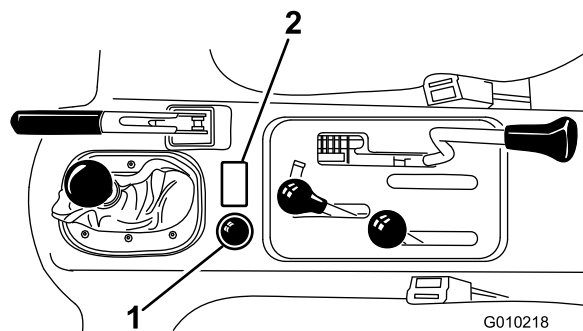

Figure 15
Affix circular level to top of console cover positioning as shown in Figure 15.
1. Affix operation decal to top of console cover positioning as shown in Figure 15.